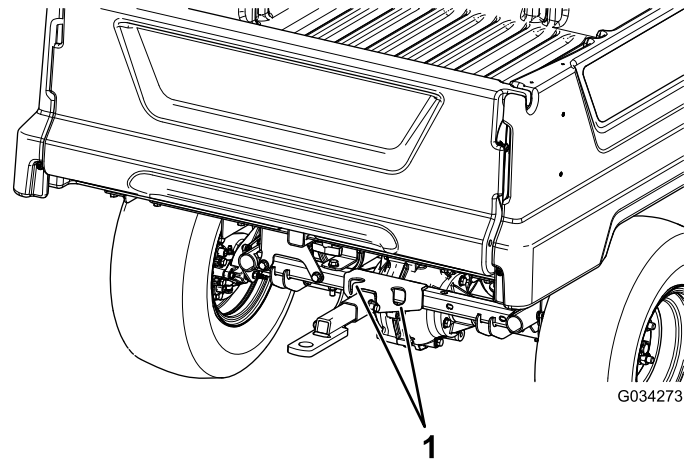
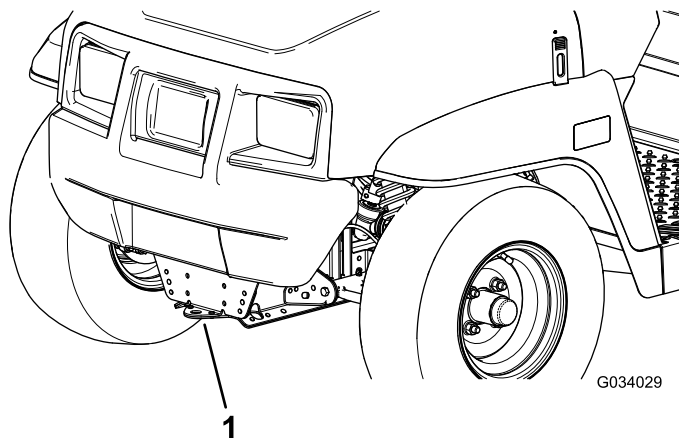

Figure 21
Figure 20
Use a trailer with full-width ramps to move the machine a long distance. Make sure that the machine is securely bound to the trailer. Refer to Figure 20 and Figure 21 for the location of the tie-down points on the machine.
2. Affix a tow line to the tongue at the front of the machine's frame (Figure 20).